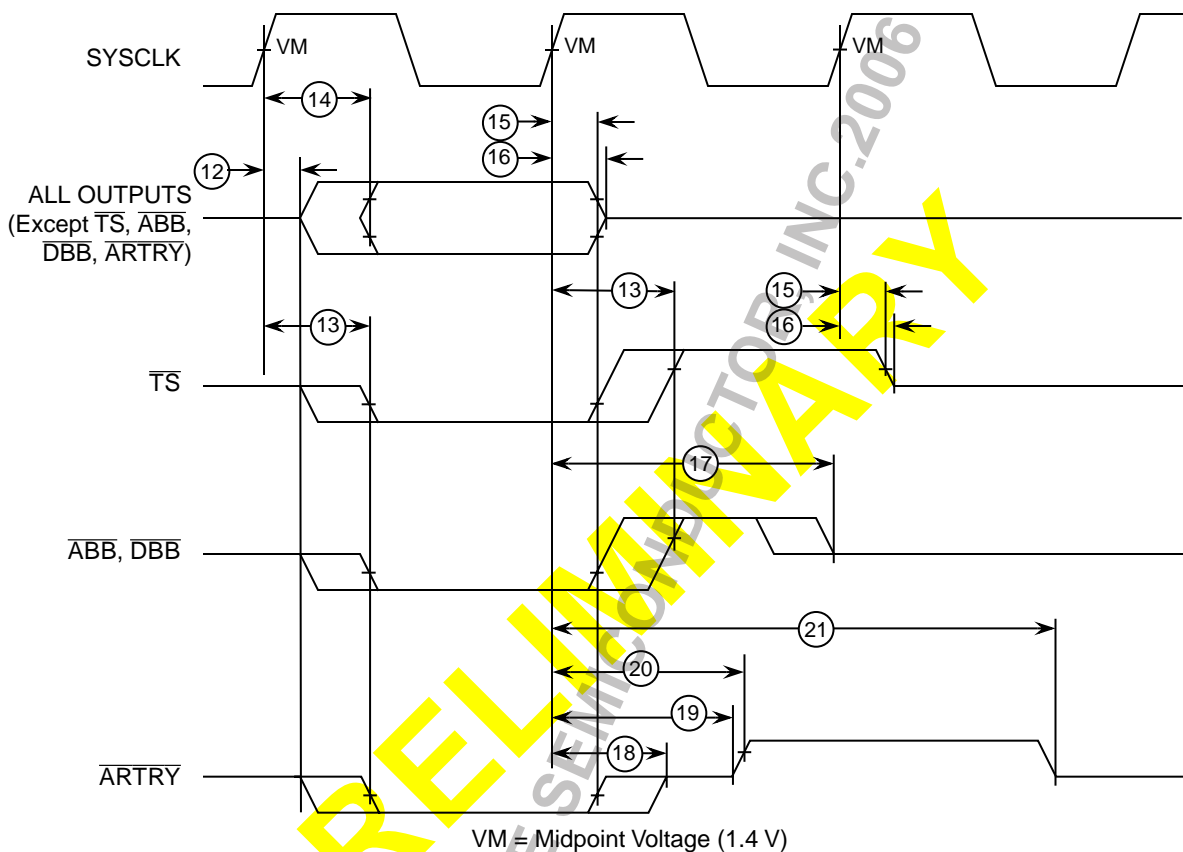

Figure 4. Output Timing Diagram
Table 8 provides the output AC timing specifications for the PID7v-EC603e as defined in Figure 4.
1. All output specifications are measured from the 1.4 V of the rising edge of SYSClk to the TTL level (0.8 V or 2.0 V) of the signal in question. Both input and output timings are measured at the pin (see Figure 4).
Figure 4 provides the output timing diagram for the PID7v-EC603e.